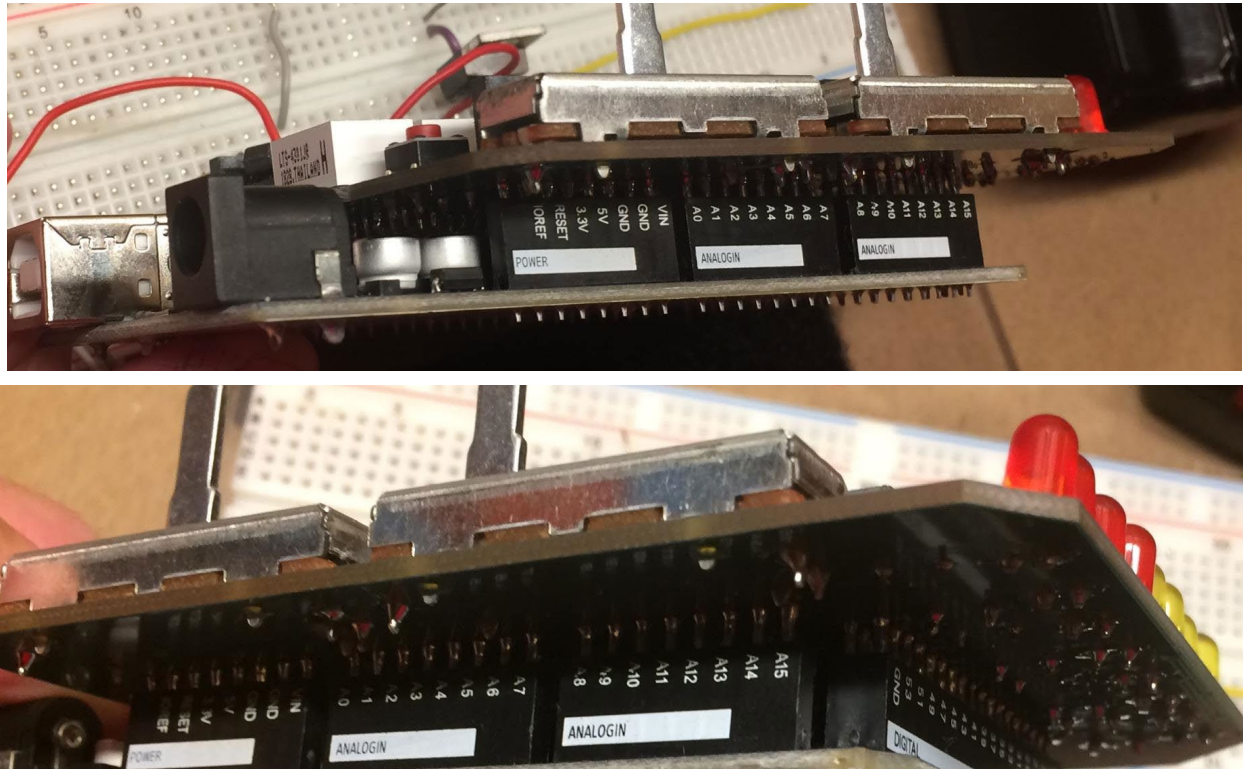

Figure 3 Aligning the pins
- a. Get your Purdue-ECET-I/O-Shield. Carefully align the pins with your Arduino and then mate the two, as shown in Figure 3.